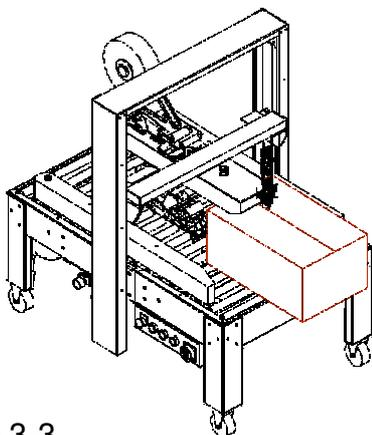

Figure 3-3
5. Turn on the power, And put the carton into the entrance of the machine. When machine touches lower downward switch, the clips will move inward and upper driven moves downward, When fixed arm touches carton and approach switch reacts, The motor will star The belt will adjust to the suitable size for cartons. Refer to Figure 3-3.